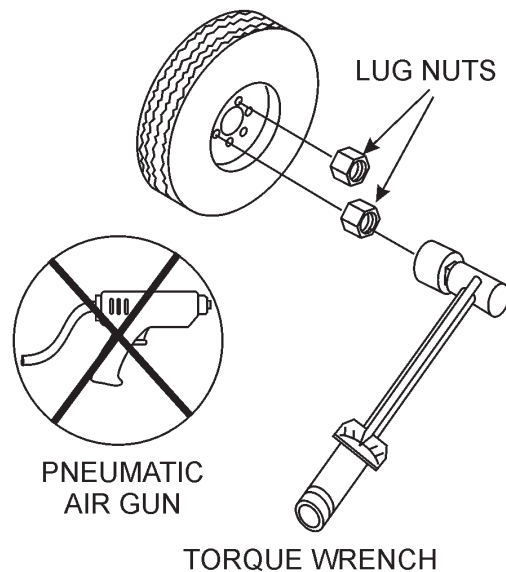

Figure 47. Wheel Lug Nuts Tightening Sequence
2. Torque all lug nuts in sequence. See Figure 47. **DO NOT** torque the wheel lug nuts all the way down. Tighten each lug nut in 3 separate passes as defined by Table 10.